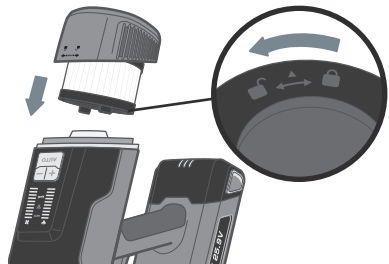

Figure 3.7
2. Rotate the main filter counterclockwise to remove it from the housing [Figure 3.7].